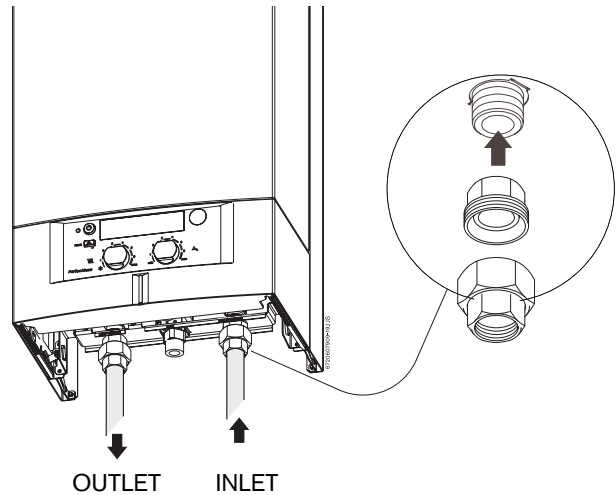

Fig. 32
- ▶ When facing the heater, the 3/4" NPT inlet is on the bottom right and the 3/4" NPT outlet is on the bottom left (Fig. 32). Install the heater centrally in the building if possible and make piping runs as short as possible.